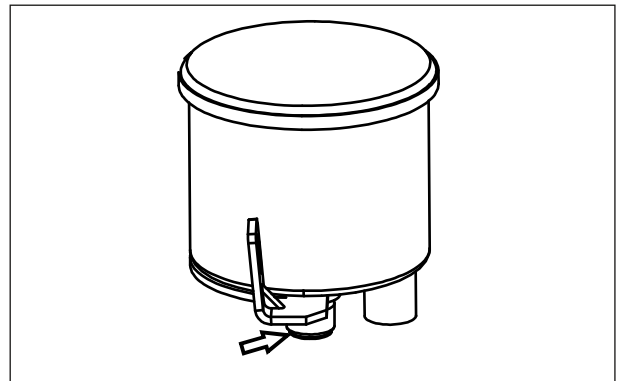

Fig. 6.55
- Pull out the bulb holder from speedometer assembly. (Fig. 6.55)